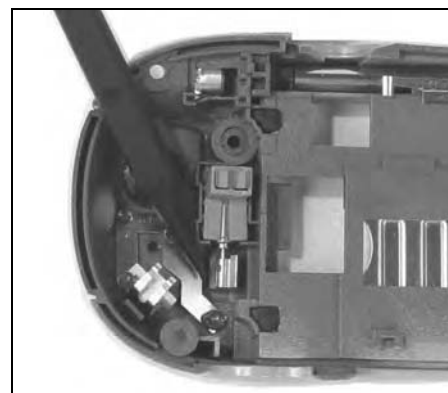

Figure 7-26.
4. Check that the cam rotates freely and that the motor shaft is not bent. See Figure 7-26.